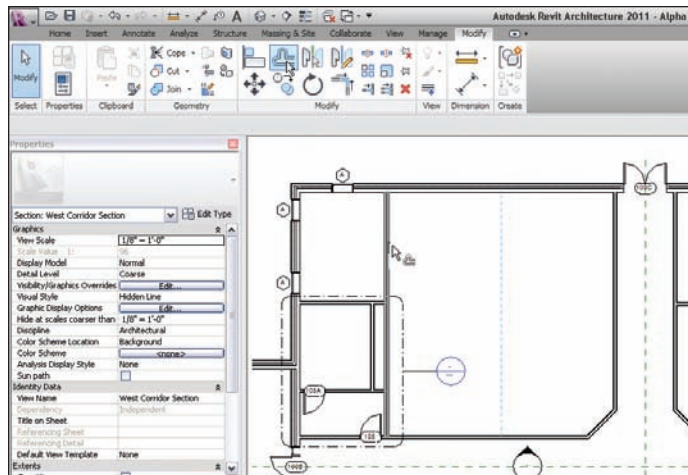

FIGURE 4.47 Choosing your options and picking the wall to be offset
1. Zoom in on the west part of the east wing. This is the area where the restrooms are (see Figure 4.47). The objective is to offset the vertical wall to the right of the restrooms to the middle of the open space.
2. On the Modify panel of the Modify tab, click the Offset button, as shown in Figure 4.47.
6. Hover your cursor over the wall to the right of the lavatory, as shown in Figure 4.47. You will see an alignment line appear to the right of the wall.